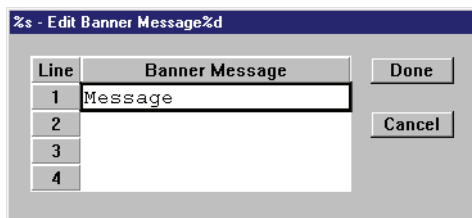

Figure 10-6: Edit Banner Message1 Window
4. Click on the button. The Edit Banner Message window will appear (see Figure 10-6).